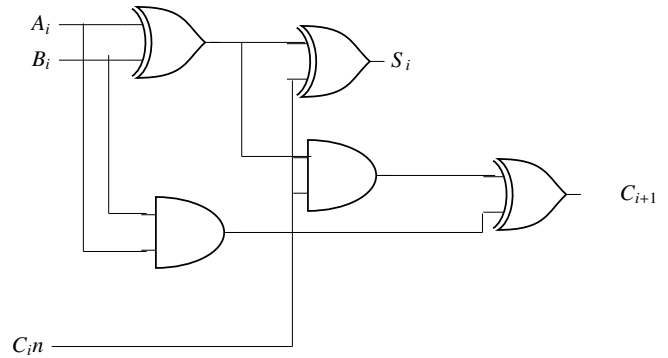

Fig. 4.18
33. Fig. 4.18 below shows the  $i^{th}$  full-adder block of a binary adder circuit.  $C_i$  is the input carry and  $C_{i+1}$  is the output carry of the circuit. Assume that each logic gate has a delay of 2 nanosecond, with no additional time delay due to the interconnecting wires. Of the inputs  $A_i$ ,  $B_i$  are available and stable throughout the carry propagation, the maximum time taken for an input  $C_i$  to produce a steady-